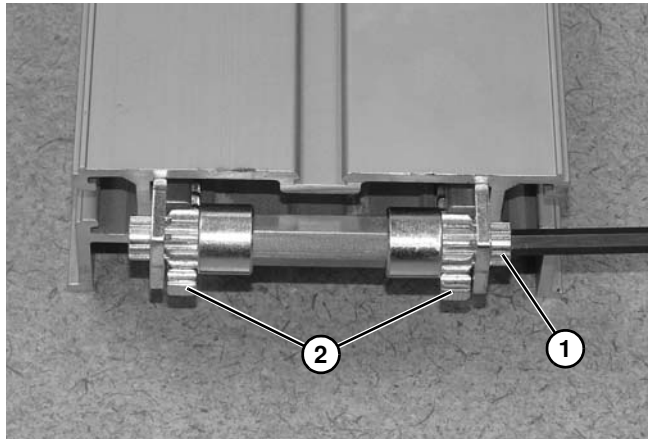

**Figure 106**
Make sure the bent end (**Figure 106, item 1**) of the gear rack is NOT assembled into the conveyor frame.